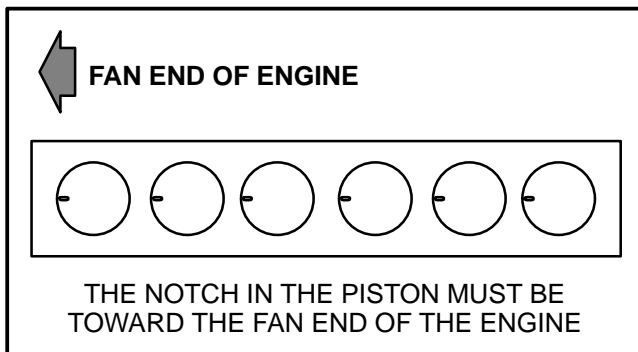

FIGURE 33. POSITION OF THE PISTON IN THE CYLINDER
NOTE: There are notches cast in the top of all pistons to indicate the correct assembly and installation. The pistons must always be installed with this notch toward the fan end of the engine. See FIGURE 33.
2. Make sure that the notch in the piston is toward the fan end of the engine as shown in FIGURE 33. Install the piston and connecting rod assemblies in the cylinder bores.